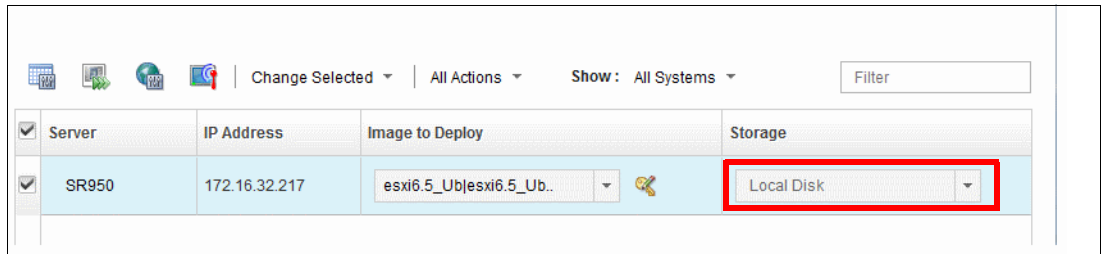

Figure 6-26 Select where the OS will be installed to
9. For each server, select the preferred storage location where you want to deploy the operating system image from the **Storage** column as shown in Figure 6-26 on page 198.